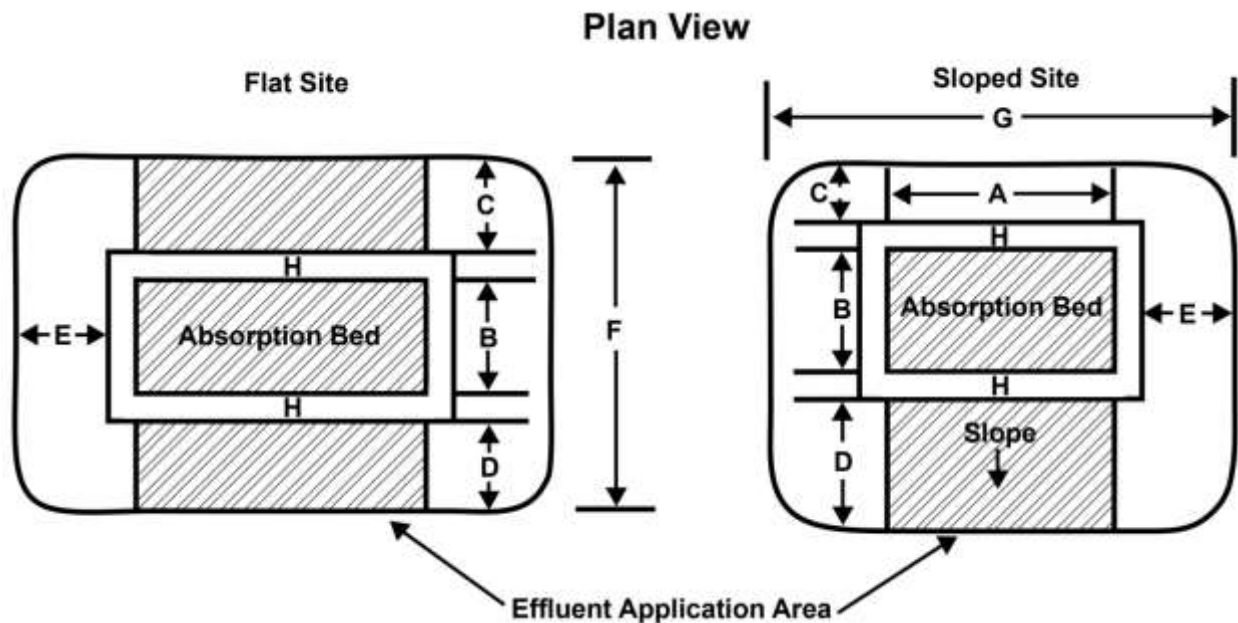
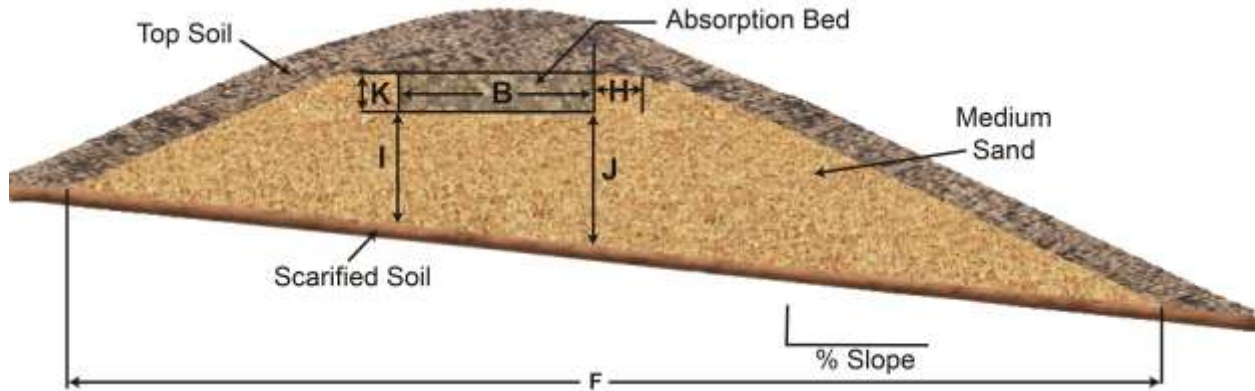

Figure 4-36. Design illustrations for sand mound installation on flat and sloped sites (use with sand mound design checklist).
Figure 4-37. Design dimensions for use with the sand mound design checklist.
3. Medium sand fill shall extend out a minimum of 24 inches level from the top edge of the absorption bed on all sides (medium sand fill absorption perimeter), and then uniformly slope as determined by the mound dimensions and the slope limitations described in item 6 below. This is dimension H in Figure 4-36 and Figure 4-37.
7. Sand fill area must be as long and narrow as practical, with plan view dimension G exceeding dimension F (Figure 4-36).
Figure 4-36 and Figure 4-37 can be used with Table 4-23 and Table 4-24 (sand mound design checklist) for flat and sloped sites.
Table 4-23. Example sand mound design checklist (use with Table 4-21, Table 4-22, Figure 4-36, and Figure 4-37).
Table 4-24. Sand mound design checklist (use with Table 4-21, Table 4-22, Figure 4-36, and Figure 4-37).